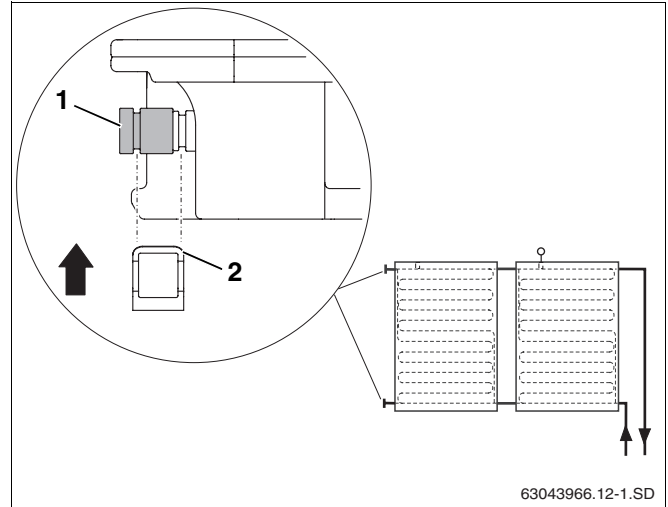

Fig. 20 Securing end cap with bracket
- ▶ Push end cap with the O-rings (Fig. 20, **Item 1**) onto the collector connection.
- ▶ Push bracket (Fig. 20, **Item 2**) over the end cap and collector connection to secure the connection.
- CAUTION!** ▶ Secure each locking cap with a bracket (Fig. 20, **Item 1**).